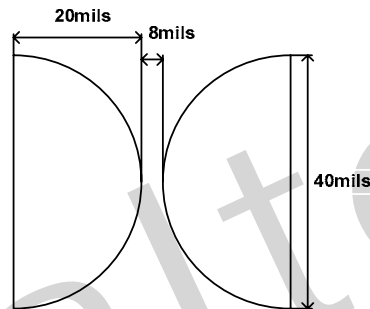

Figure 14. Spark Gap Design
- We suggest two spark gap pads that have half circles with a radius of 20 mils, and with a gap between each of 8 mils. The pads must not be covered with solder mask (copper exposure) and the gap area must be open to the air. The spark gap design is shown in Figure 14